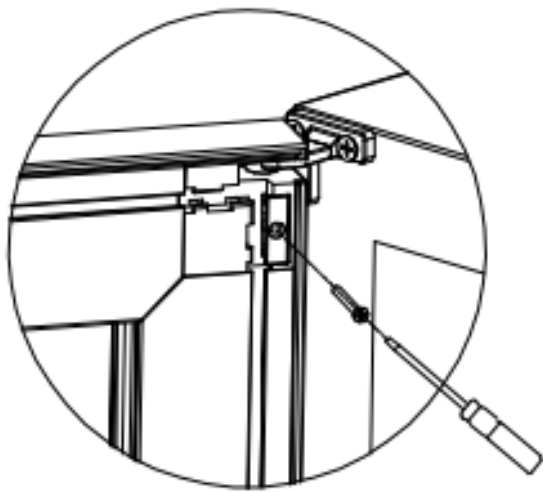

Figure 1
2. Use a Phillips screwdriver to loosen the screws on the door hinge cover. (figure 1)